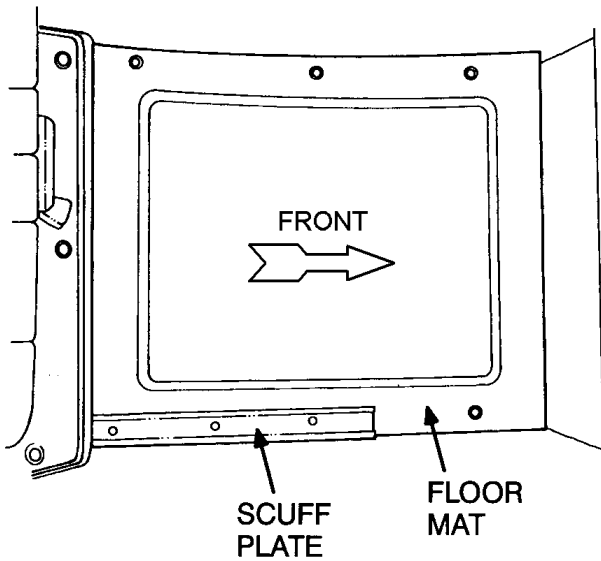

Figure 14 Floor Mat Remove/Install
- a. Remove the scuff plate from door sill (Figure 14).
- b. Remove the floor mat (Figure 14).
6. Install floor mat (Figure 14).